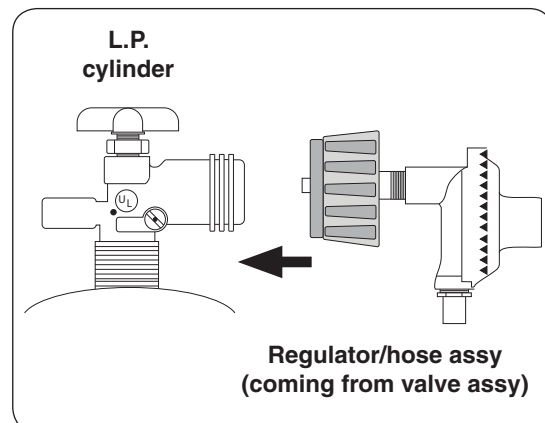

Fig. 2-3 Connect to the L.P. cylinder
3. Attach the regulator end of the hose assembly to the L.P. cylinder and tighten (see Fig. 2-3).